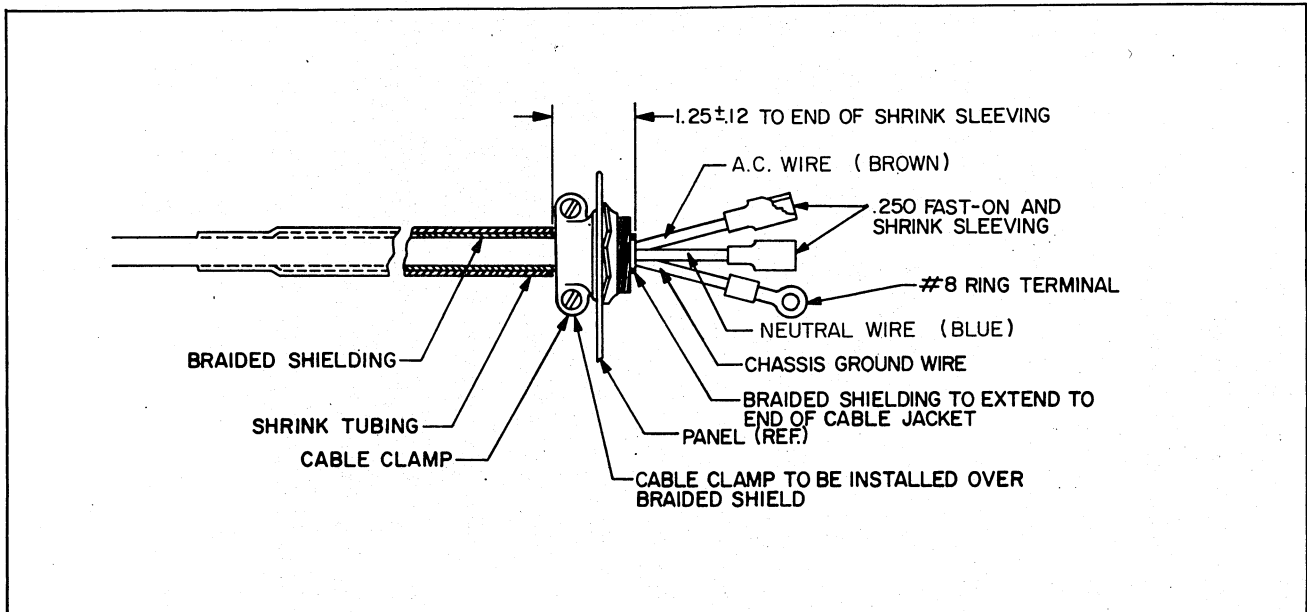

FIGURE 2-4. LINE CORD PREPARATION
This procedure is only for printers that do not have power cords already installed. The printer end of the power cord should be assembled as shown in Figure 2-4. After assembling the cord install it as instructed in the following procedure.
5. Make sure the clamp is around the cord shielding and then tighten the strain relief clamp screws (see Figure 2-4).